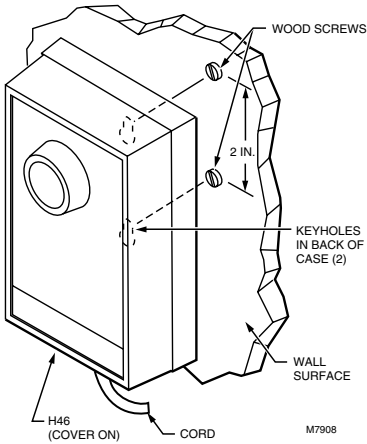

Fig. 2. Mounting H46F with two screws.
1. At the selected location, insert the two wood screws (provided) into the wall 2 in. (51 mm) vertically apart and protruding 1/16 in. (2 mm) from the wall. See Fig. 2.